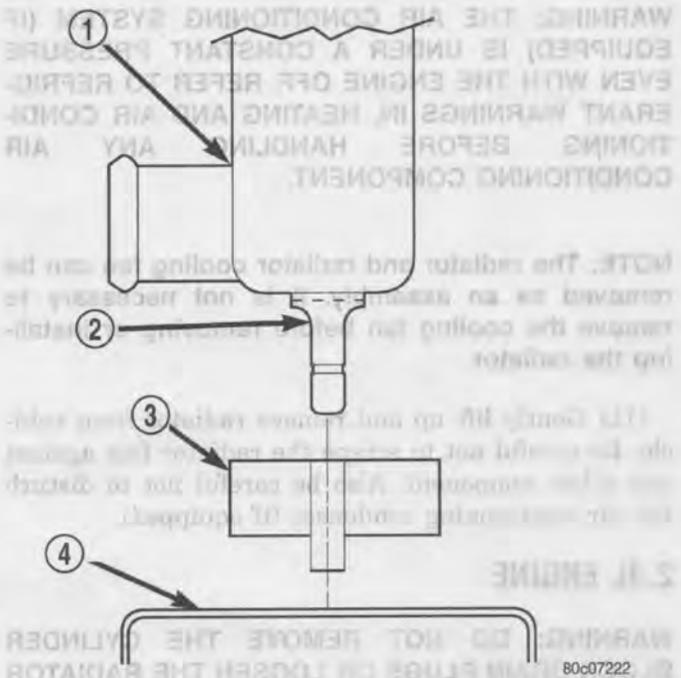

Fig. 25 Radiator Alignment Dowels - Typical
- (1) Disconnect the negative battery cable at battery.
- (2) Drain coolant from radiator (Refer to 7 - COOLING - STANDARD PROCEDURE).
- (3) Remove the front grill (Refer to 23 - BODY/EXTERIOR/GRILLE - REMOVAL).
- (4) Remove the cooling fan from the engine, if equipped.
- (5) Remove the two radiator mounting bolts.
- (6) Disconnect the connector for the electric fan.
- (7) Disconnect the power steering cooler line from cooler.
- (8) Disconnect the radiator upper and lower hoses.
- (9) Disconnect the overflow hose from radiator.
- (10) The lower part of radiator is equipped with two alignment dowel pins (Fig. 25). They are located on the bottom of radiator tank and fit into rubber grommets. These rubber grommets are pressed into the radiator lower crossmember.